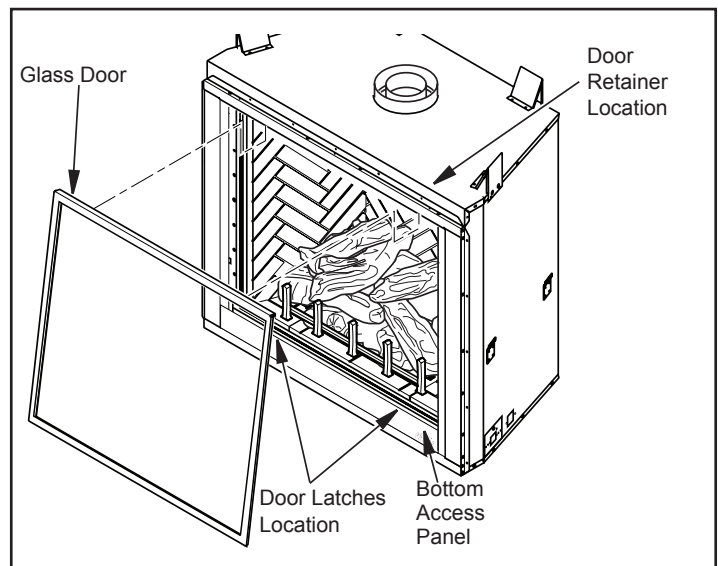

Figure 2 - Removing/Replacing Glass Door and Access Door
3. Remove glass door by unlocking 2 door latches on bottom of firebox (see Figure 2).
4. Tilt open glass door 45° from the bottom of firebox and lift up to release door from firebox top retainer (see Figure 2).